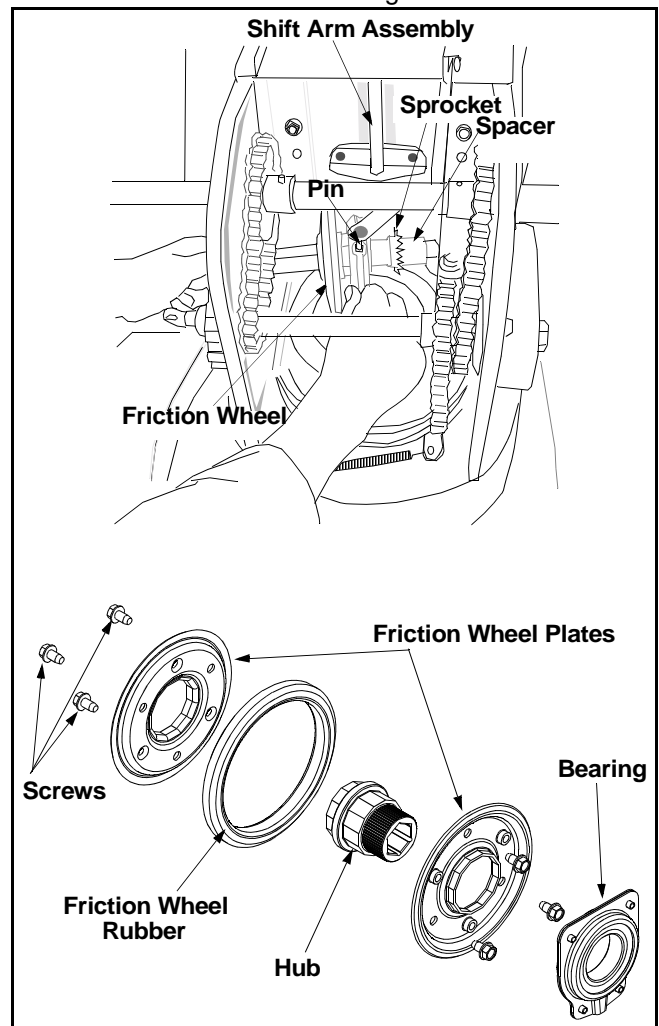

Figure 20
- Using a 7/8" wrench, hold the hex shaft and remove the hex bolts and cupped washer and bearing from left side of the frame. See Figure 20.
- Remove the six screws from both sides of the friction wheel assembly and remove friction wheel rubber from between the friction wheel plate. See Figure 20.
- Insert the pin from the shift arm assembly into the friction wheel assembly and hold assembly in position. Refer to Figure 20.